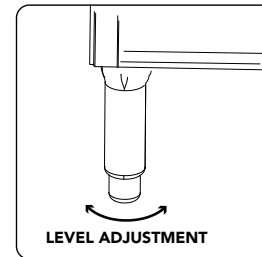

Fig. 1 - Legs
1. Place the machine in its final location and level it front-to-back and side-to-side with a bubble level and the adjustable feet, (Fig. 1).
2. Place the dishwasher in its final location and level it front-to-back and side-to-side with a bubble level and adjustable feet, (see Fig. 1).